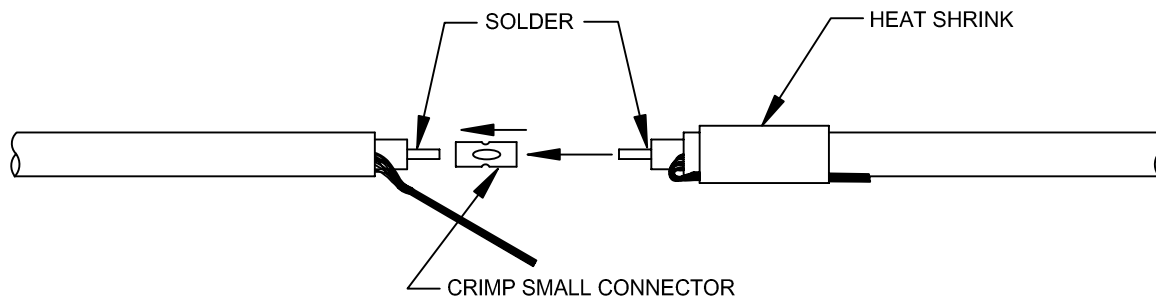

Figure 6.28 – Crimping and Soldering the Center Conductor
- **Step 4:** Slide cable into heat shrink folding the braid back as shown in Figure 6.28. Crimp and solder the small connector around the center conductor ensuring solder flow around the conductor on both cables as shown.